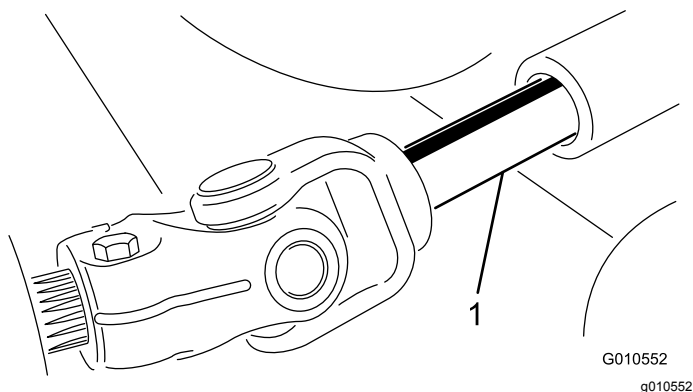

Figure 25
3. Roll the cutting unit away from the traction unit, separating the male and female sections of the PTO shaft (Figure 25).
3. Slide the male PTO shaft into the female PTO shaft (Figure 25).